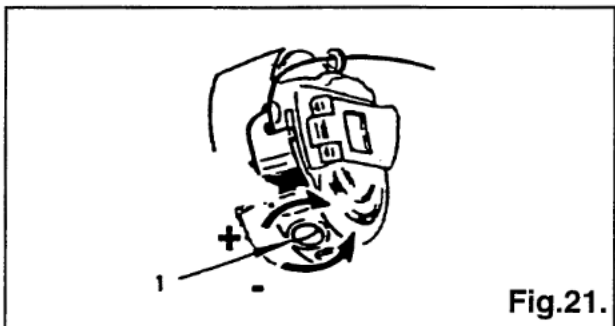

Fig.21.
Regulate bobbin thread tension with tension regulating screw (1), Fig.21.